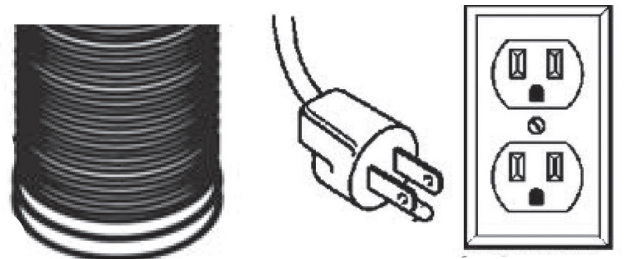

Figure 4
- 5 Make your electrical and ducting connections. Try and minimize the use of elbows. More elbows and longer runs create higher static pressure. The hood comes with a grounded three prong plug that can either be direct wire or plugged into a 20amp. circuit. (Figure 4)